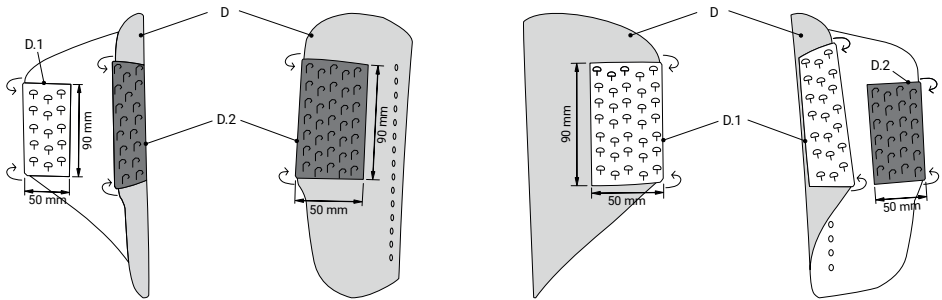

Figure 6: Left Cuff
Remove the old pad (E) and the upper strap (F.1 or F.2). Replace the old self-adhesive Velcro strips attached on the inside and outside of the shell (D) with the new self-adhesive white mushroom head strips (D.1) and black hook strips (D.2) provided. After removing the old strips, clean the shell with a degreasing agent such as Spiritus. Position the strips as shown in Figure 6. Press each new strip firmly for at least 60 seconds. Fasten the new pad tightly in the shell. Wrap the sewn-on velour straps of the pad around the front and back edges of the shell and press the straps firmly on the outside. Attach the upper strap on the outside of the shell to the folded velour of the pad.